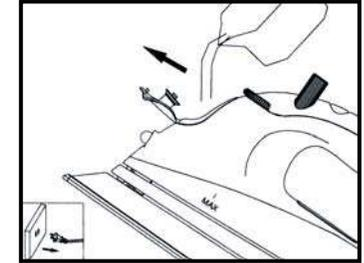

Fig. 1
1. Open the water filling inlet cover. Holding the iron at a slight angle, pour water slowly into the water filling inlet. (Fig.1) Fill tank to desired level or to the "MAX" water level marking using the water filling flask. (When the iron is upright, the see-through water tank allows you to gauge the amount of water.) DO NOT overfill the tank. When finished filling the iron with water, close the water inlet cover before continuing.